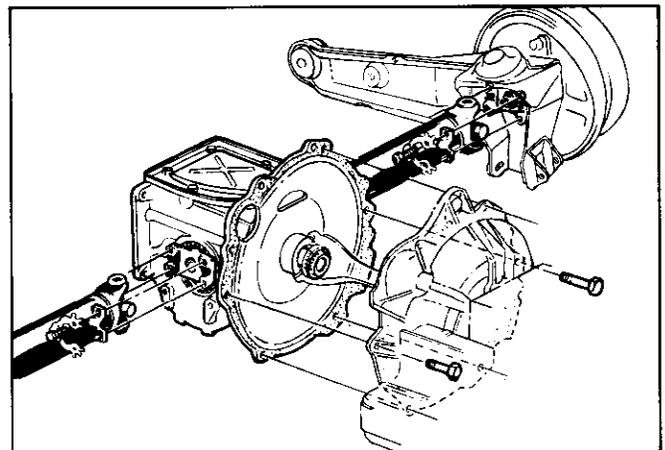

Fig. 1—Axle Drive Shaft Installation
3. Bend lock tabs downward from their position against trunnion retaining bolts (fig. 1).